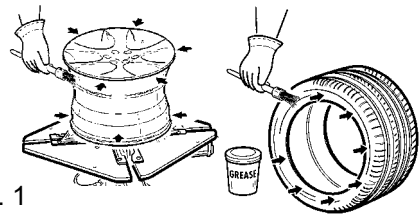

Fig. 1
The values changed previously can be increased further still by moving the position of the 4 jaws as shown in the following figure (fig. 1).
• Set the locking button (11) in position 2. Move the operating arm (fig. 1) until the mounting tool (12) rests on the rim upper edge. Then lock everything by setting the locking button in position 1 (fig. 2). In this way, the arm gets locked both in a vertical and in a horizontal direction, while the mounting tool (12) is moved automatically of about 2 mm. from the rim.
- With the lever held in this position, let the turntable (14) (fig.1 page 17) rotate in a clockwise direction by pressing pedal (3) down until the upper tyre bead has completely come off of the wheel rim.
- In order to remove the inner tube, if there is one, without unlocking the operating arm, tilt back the tower by pushing pedal (1) down.
20.1 Lower bead mounting (see references at pag. 17, fig. 1)
- Press pedal ref. 1 to approach the mounting arm and position the mounting tool onto rim edge.